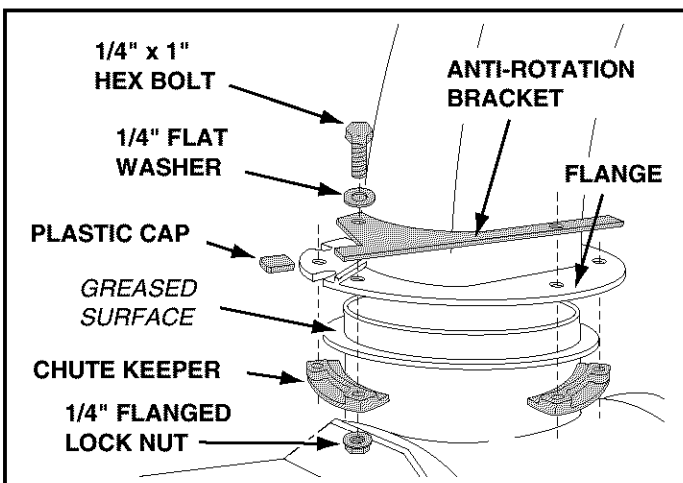

FIGURE 20 RIGHT SIDE VIEW
- Coat the top of the ring around the discharge opening with general purpose grease. See figure 20.
- Place the discharge chute (facing forward) onto the ring. Place the anti-rotation bracket on top of the chute flange, aligning it with the holes on the right hand side of the flange. Attach the three chute keepers (right side up as shown) to the bottom of the flange using six 1/4" x 1" hex bolts, 1/4" flat washers and 1/4" flanged lock nuts. **Tighten carefully** so that the nuts are snug but do not dig into the plastic chute keepers. See figure 20.
- Place the plastic cap onto the short end of the anti-rotation bracket. See figure 20.